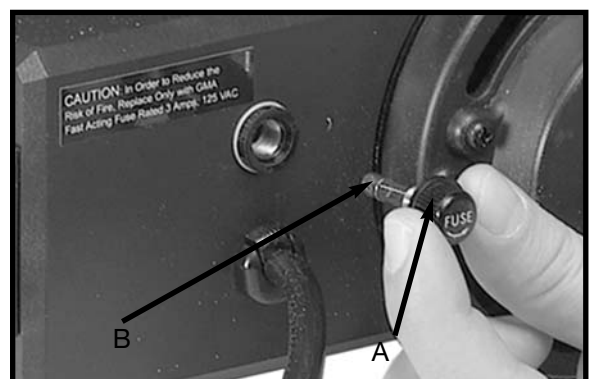

Fig. 6A
A fuse holder (A) Fig. 6A, and fuse (B) are located under the rear of the machine and should be removed and checked if the machine does not operate. If the fuse (B) is bad, replace it with a 3 amp fuse.